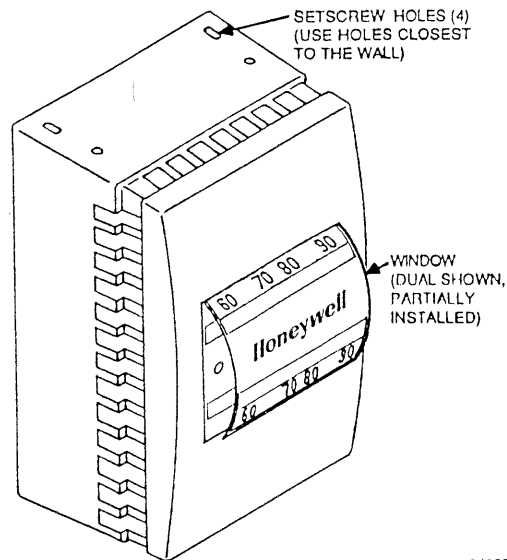

Fig. 12. Assembly of Cover with Window and Insert.
- Ensure that the window is oriented correctly for the installation. When viewed from the front of the cover, the setpoint and day/auto openings are on the bottom for a vertical thermostat or on the right for a horizontal thermostat. The cover has slots which must mate with the mounting ears on the backplate. Insert the top edge of the window into the slot in the top of the window hole (Fig. 12). Bend the window slightly and pop the bottom edge into the slot in the bottom of the window hole. Press in place to secure window.